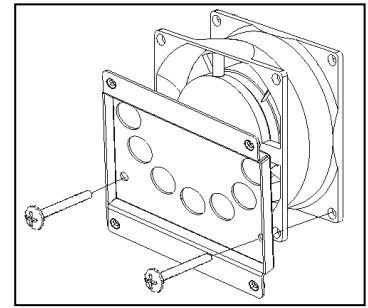

Figure 2 – Duct plate position on exhaust fan.
- Position the duct plate over the lower portion of the exhaust fan (*figure 2*).